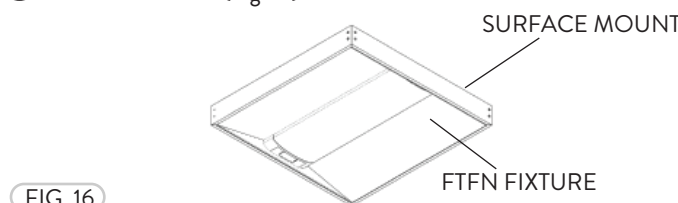

FIG. 16
- 5 After the Surface Mount Kit is properly installed, this is how the FTFN fixture should look (Fig. 16).